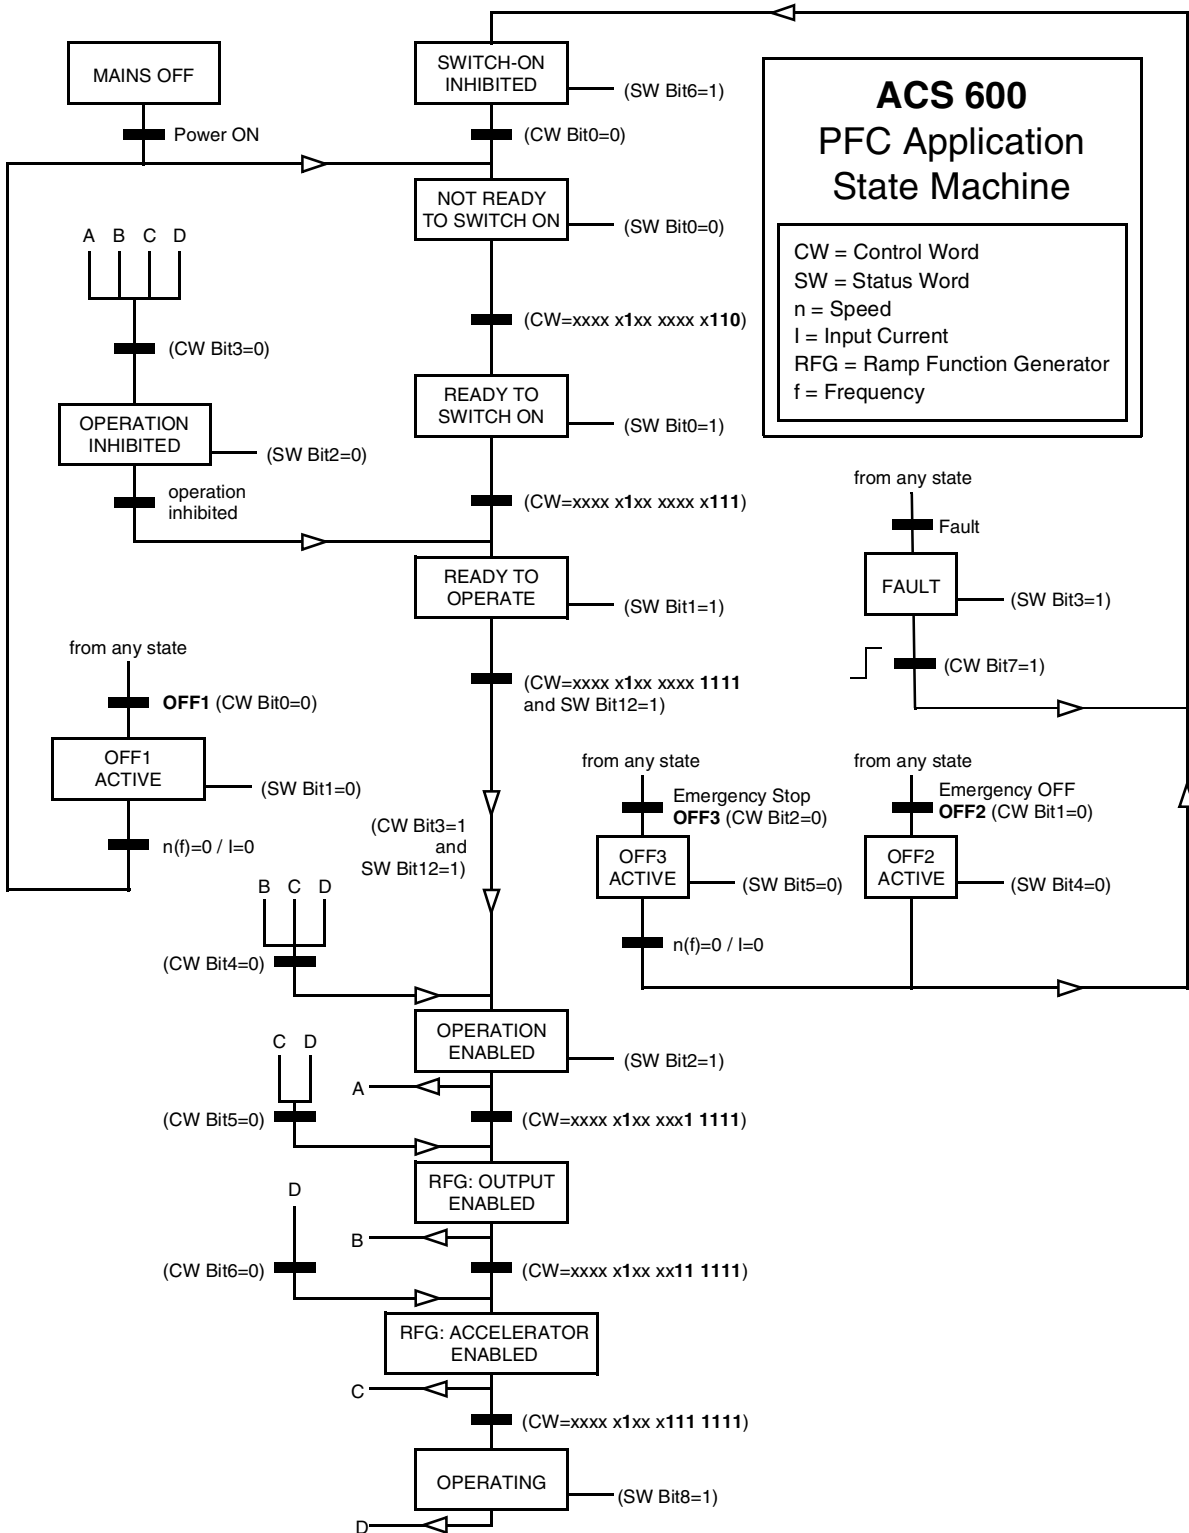

Figure C-4 The ACS 600 State Machine for the PFC Application Program (ABB Drives Communication Profile), effective under fieldbus control.
The Control Word (detailed in Table C-5) is sent by the fieldbus controller to the drive. The drive switches between its states (shown in Figure C-4) according to the bit-coded instructions of the Control Word.
The PFC Application Program supports the *ABB Drives* communication profile, which standardises the control interface (such as the Control and Status Words) among ABB drives. The ABB Drives profile derives from the PROFIBUS control interface and provides a variety of control and diagnostic functions (see Table C-5, Table C-6, and Figure C-4).
Table C-5 The Control Word (Actual Signal 3.01 MAIN CTRL WORD) for the ABB Drives Communication Profile. The upper case boldface text refers to the states shown in Figure C-4.
**Table C-6** The Status Word (Actual Signal 3.02 MAIN STATUS WORD) for the ABB Drives Communication Profile. The upper case boldface text refers to the states shown in Figure C-4.